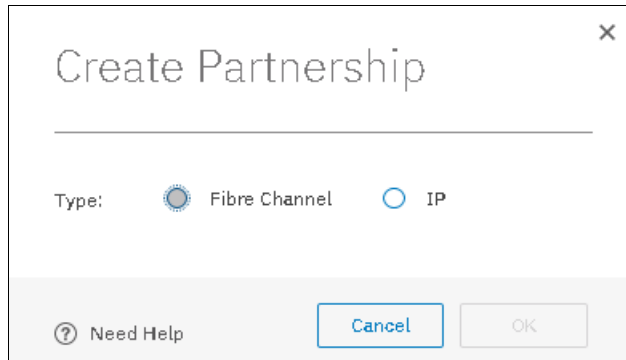

Figure 10-83 Partnership type
- In the **Create Partnership** window, select Fibre Channel or IP, as shown in Figure 10-83.